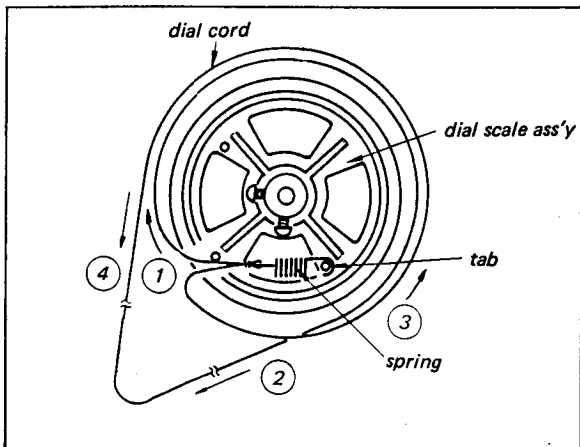

Fig. 2-9. Dial cord restringing (Back View)
5. Hook the spring to the tab on the dial scale ass'y and string the dial cord around the dial scale ass'y and the tuning shaft in numerical order as shown in Fig. 2-9 and 2-10.